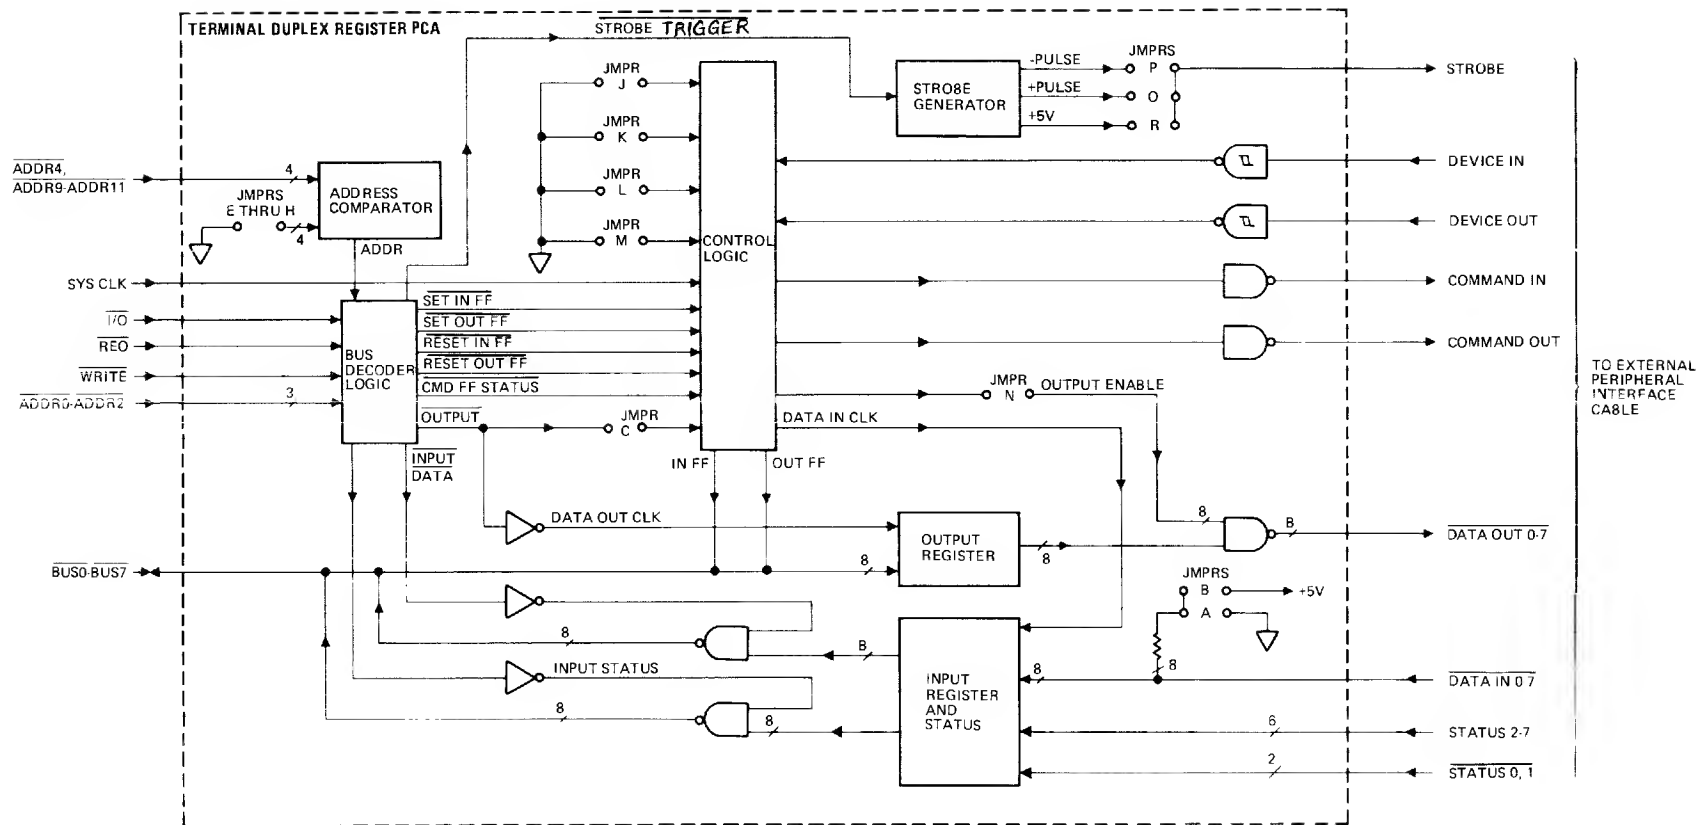
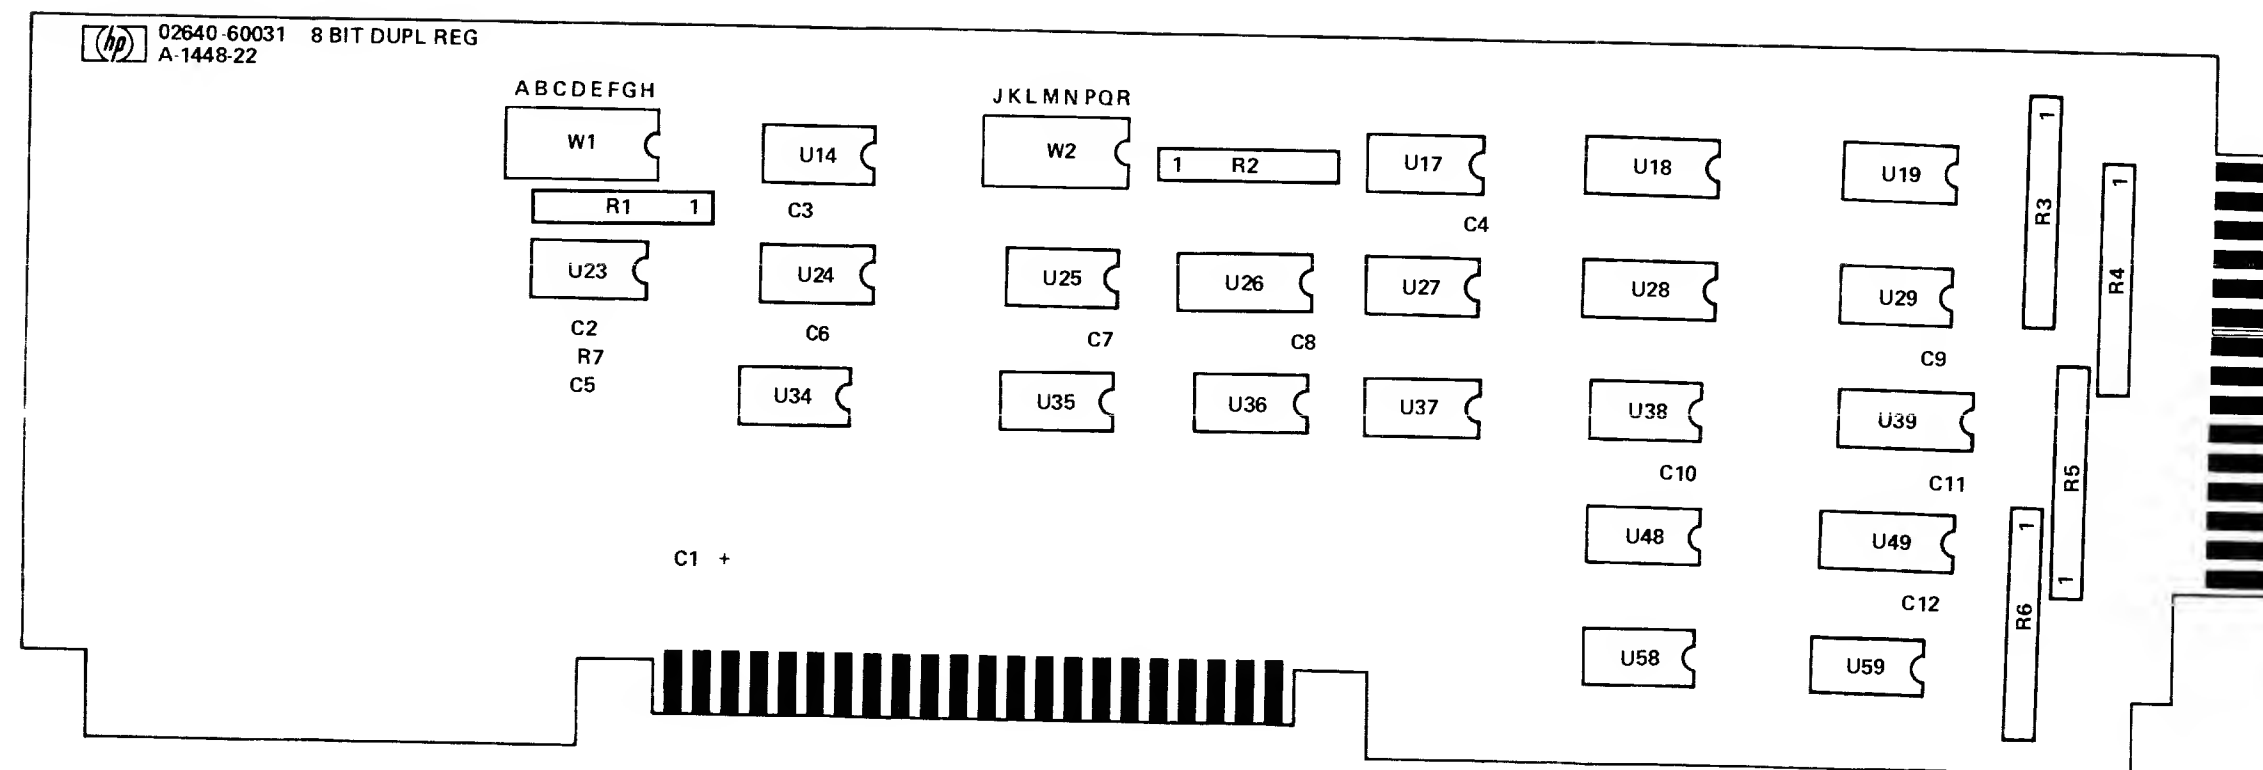

Figure 1
Figure 3
- 3.0 FUNCTIONAL DESCRIPTION. Refer to the block diagram (figure 1), schematic diagram (figure 2), component location diagram (figure 3), and parts lists (02640-60031) located in the appendix.